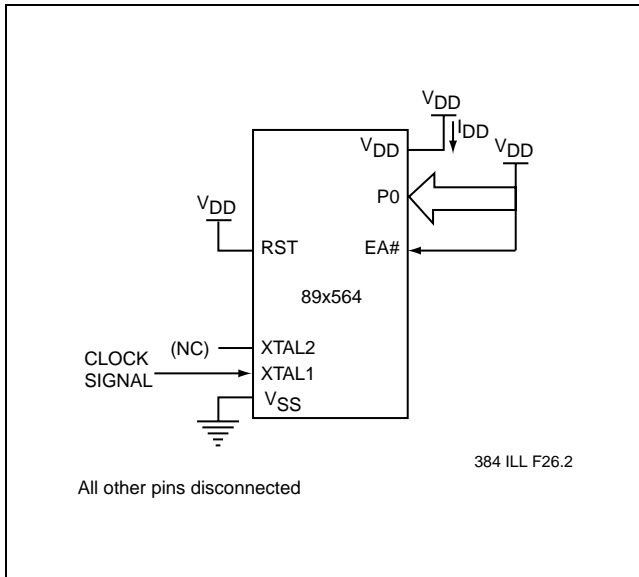

FIGURE 10-1: I_{DD} TEST CONDITION, ACTIVE MODE
7. See Figures 10-1, 10-2, 10-3 and 10-4 for test conditions. Minimum V_{DD} for Power Down is 2.0V.